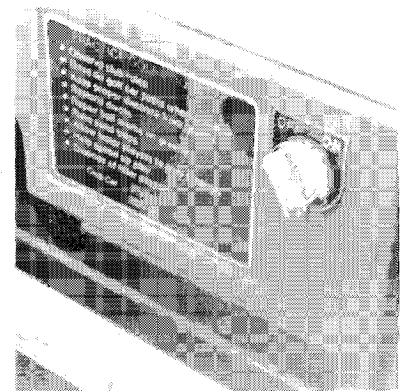

Figure 3-2
Key Switch - The key switch is mounted on the dash to the right of the steering column (Figure 3-2). It has two (2) positions, "On" and "Off" which are clearly labeled. The key is removable in the "Off" position only.